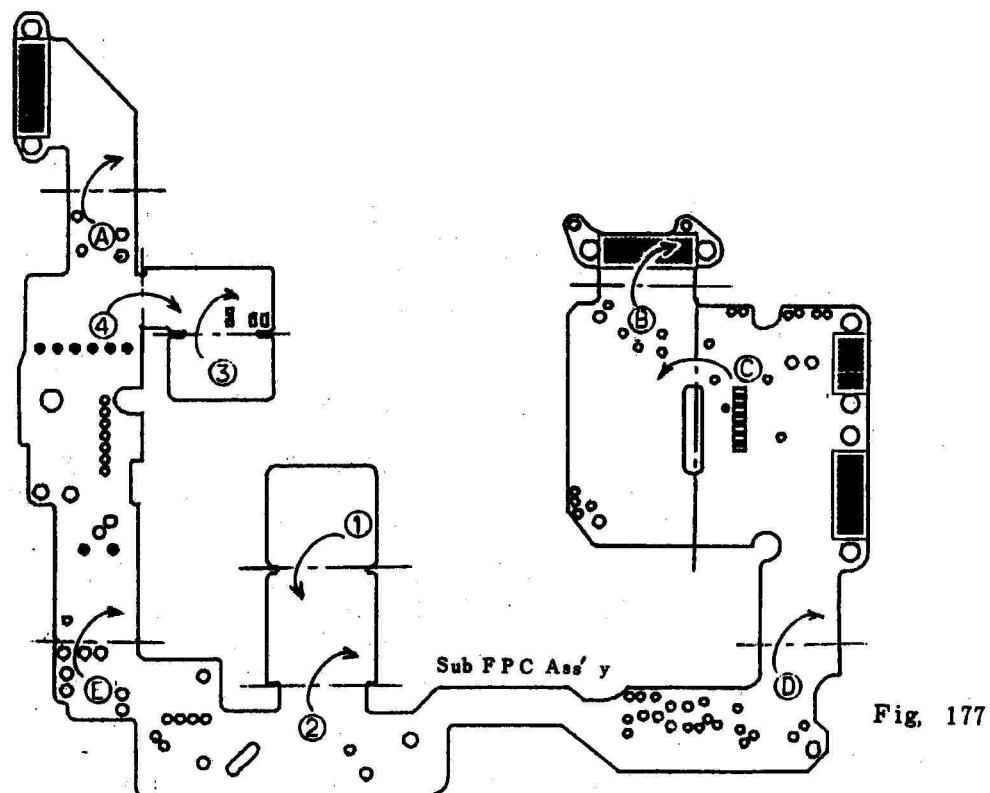

Fig. 177
Before installing a new Sub FPC Ass'y, be sure to perform bending in the direction of the arrows in the order of ① to ② and ③ to ④. (Fig. 177)